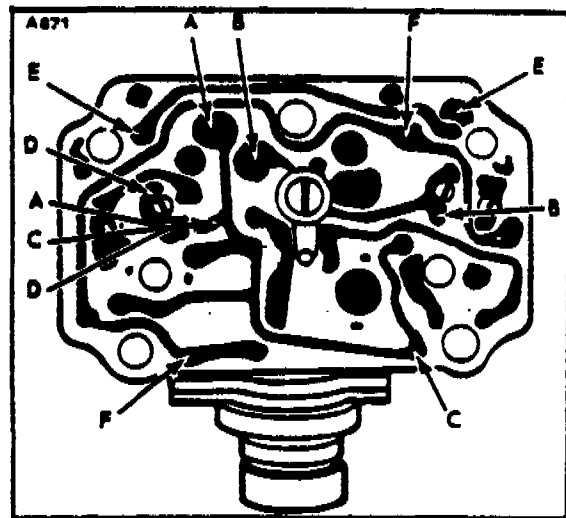

FIGURE 9-26. REGULATOR CHECKS
3. If reading is zero, check for a short between "NEG" and "FLD" leads, or for a grounded "FLD" lead. Circuit trace will be burned open between points A-A, B-B, or C-C, Figure 9-26.
4. If reading is low, alternator field winding is shorted. Circuit trace may be burned between points A-A, B-B, or C-C, Figure 9-26.
2. If voltage reading is zero, the "NEG" and "FLD" leads are reversed. Circuit trace will be burned open between points A-A, B-B, or C-C, Figure 9-26.
2. If meter now reads backwards, alternator field terminal is connected to regulator negative terminal, the positive line is connected to regulator field terminal, and regulator positive terminal is connected to negative side of circuit. Either the circuit trace will be burned between points C-C, D-D, or E-E, Figure 9-26; or the driver transistor will be open. In either case, the driver bias resistor will have been overheated.
1. If meter still reads backwards, the "POS" and "NEG" leads are reversed. The circuit trace may be burned between points C-C, D-D, E-E, or F-F, Figure 9-26. The transient suppression diode always will be open or shorted.
terminal is connected to the regulator "POS" terminal. The circuit trace will be burned open between points F-F. Figure 9-26.